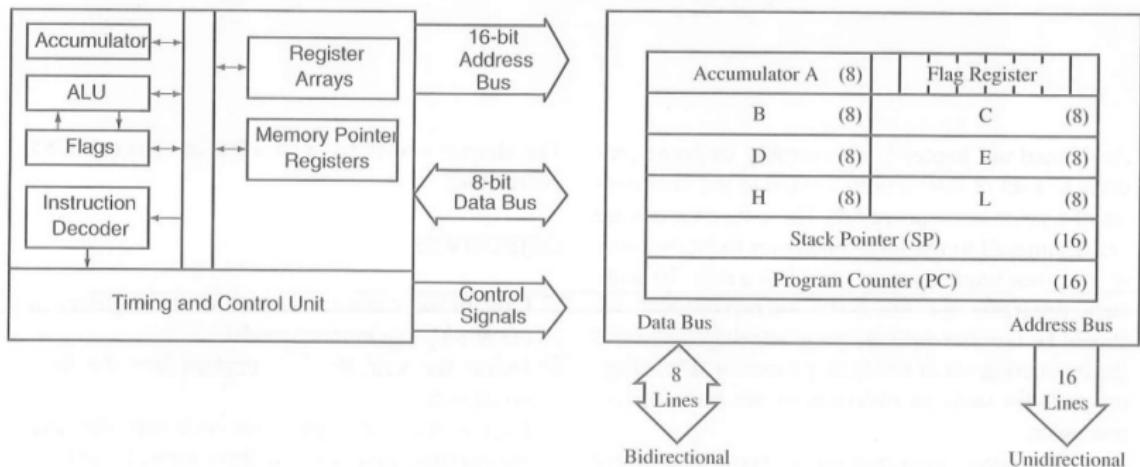

Figure 19: The internal architecture of the Intel 8085 MPU show the register arrangement and system buses
- The internal architecture of the Intel 8085 is given in the diagram in figure 19